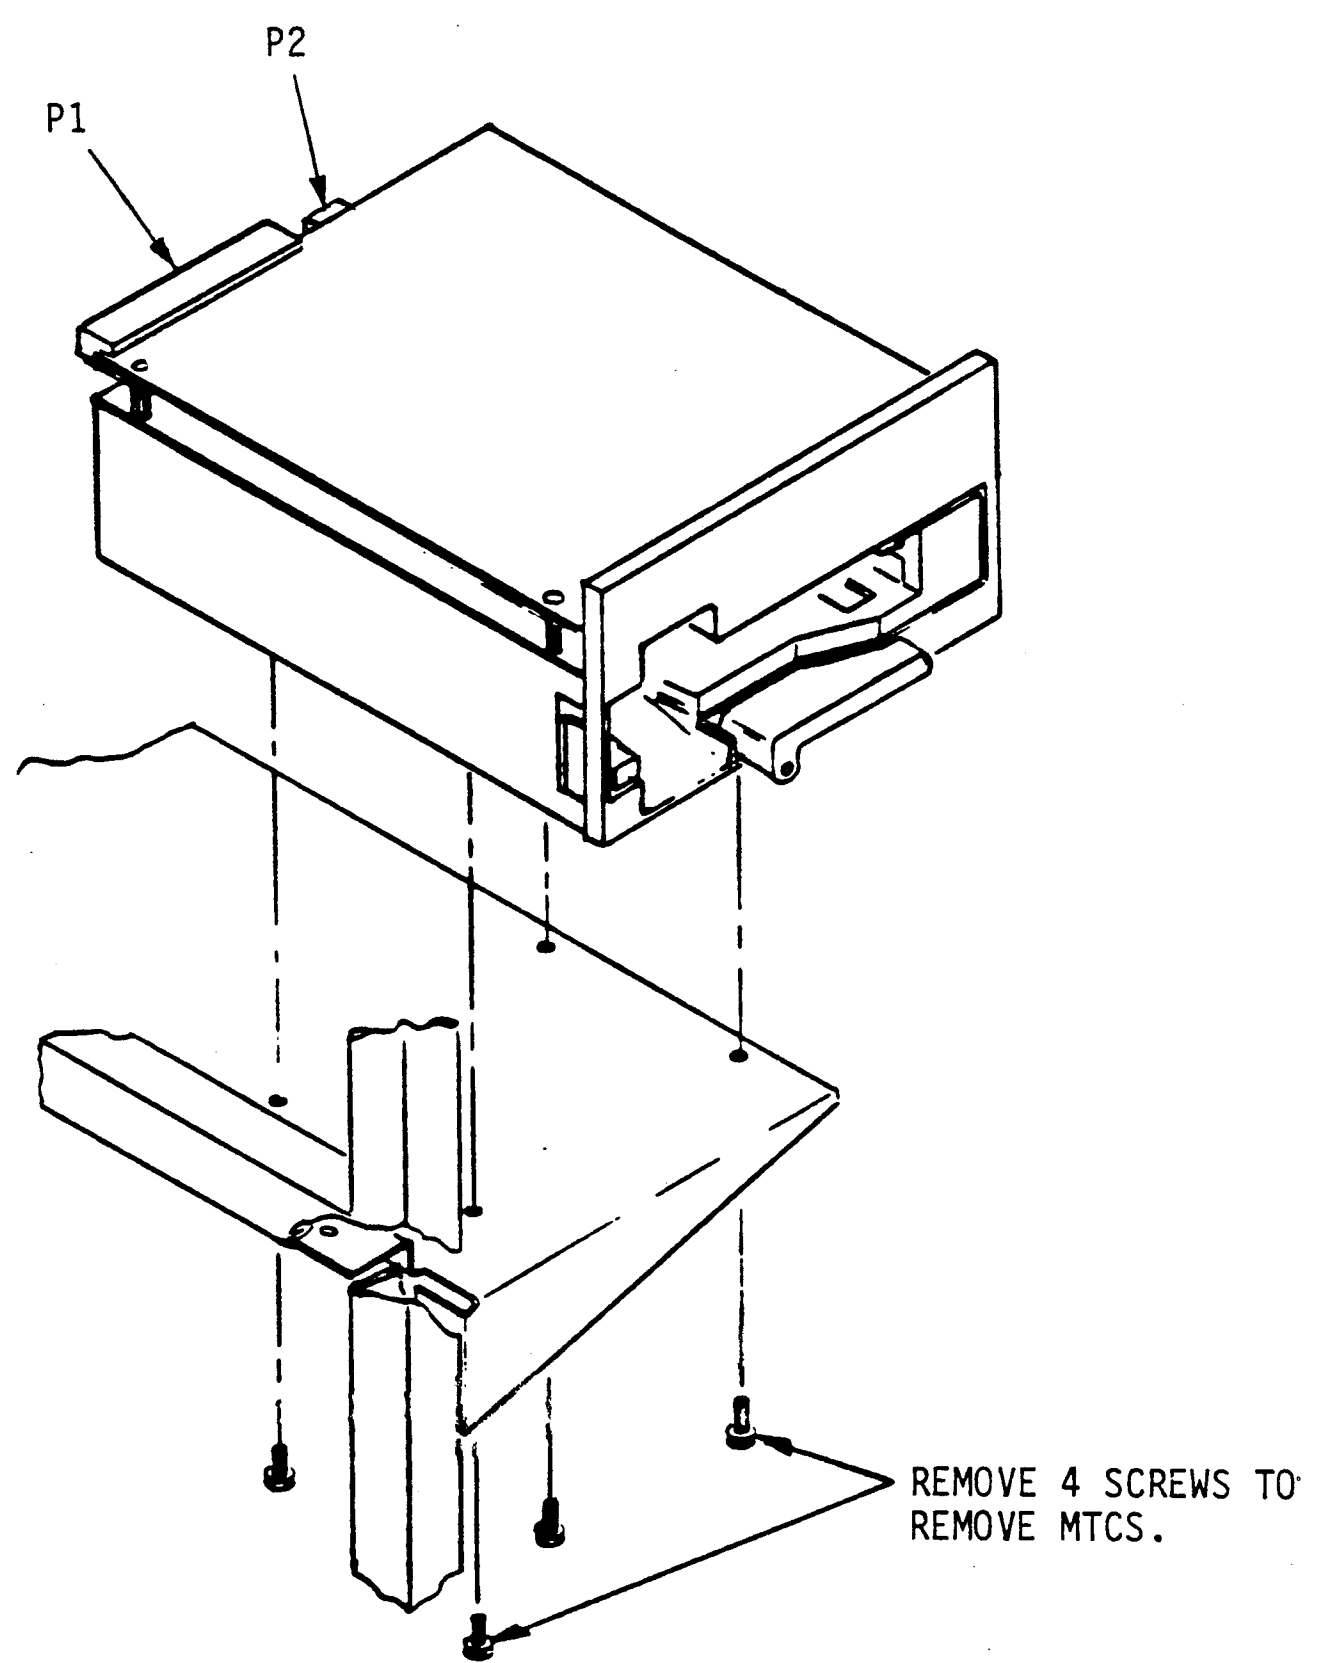

Figure 5-4. MTCS Removal/Replacement
- b. Disconnect power cable from MTCS connector P2 and bus cable from MTCS connector P1 (see figure 5-4).